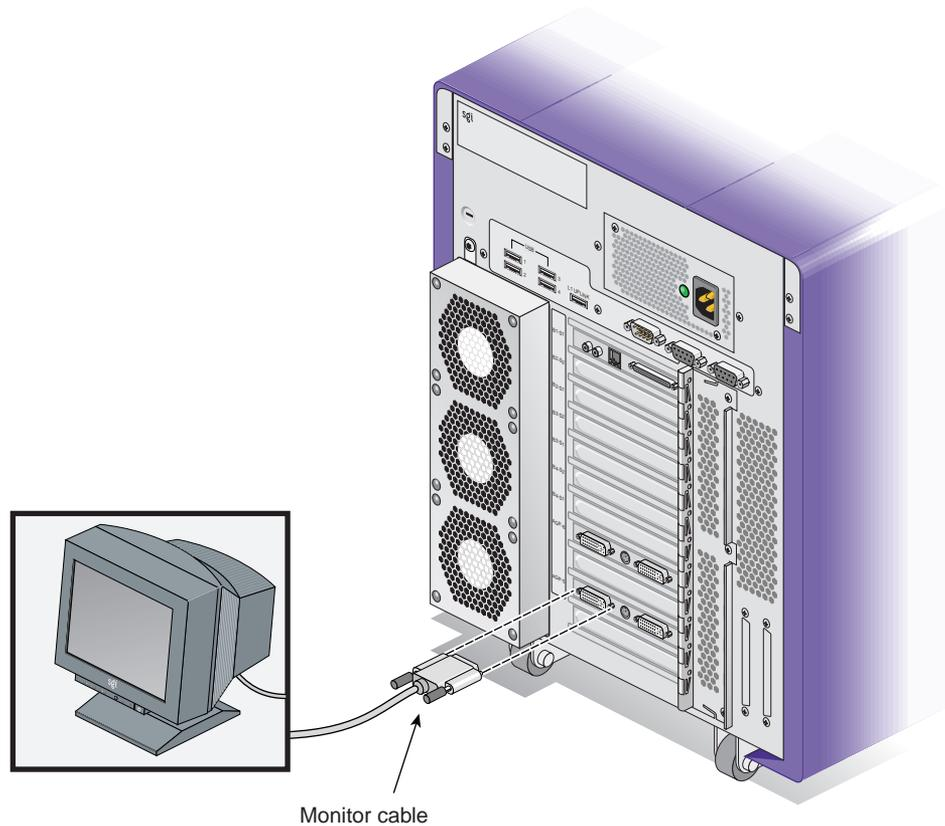

Figure 1-7 Connecting the Monitor Cable Example
3. Connect the monitor-to-graphics cable, as follows (see Figure 1-7):